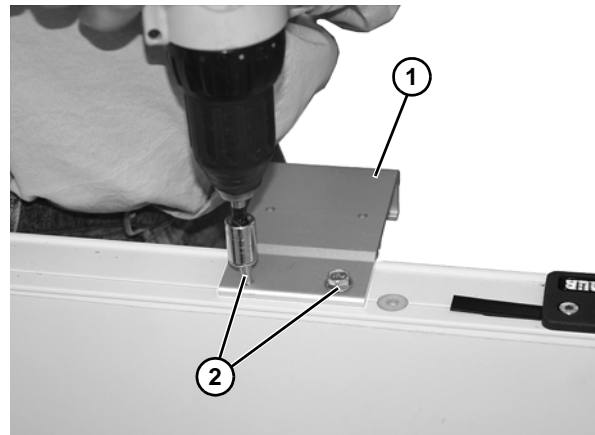

Figure 22
3. Position and hold bracket (**Figure 22, item 1**) to side rail. With a standard M6-1.0 or 1/4-20 screw, install screws (**Figure 22, item 2**) with cordless drill or equivalent. Do not fully tighten with drill.